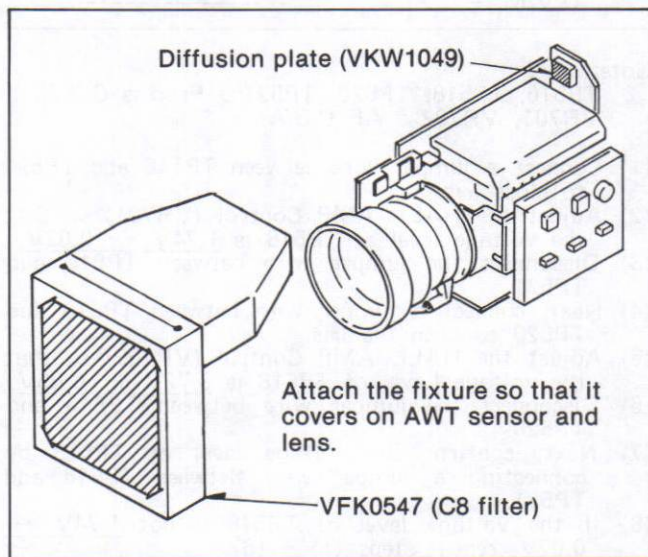

Fig.C32
- (1) Set the White balance selector for "AUTO" position.
- (2) Aim the camera at the white chart, Lighting should be a 3200 degrees K Halogen lamp.
- (3) Supply the video signal to the vectorscope.
- (4) Connect the jumper wire among TP511, TP512 and TP513.
- (5) Attach the diffusion plate (VKW1049) onto surface of AWT sensor and taping around the sensor with black tape so that any light is not entered to sensor from the gap between sensor and diffusion plate.
- (6) Set the fixture (refer to Note 1 of item 15, outdoor white balance Adjustment) to the lens.
- (7) Set the colour temperature conversion filter to the fixture as shown in Fig. C32. (VFK0547 to front of lens)